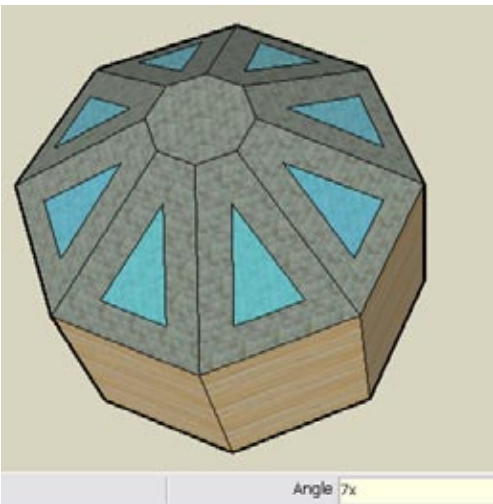

Figure 1-46
8. Enter  $7x$ , and you have eight total windows (Figure 1-46).